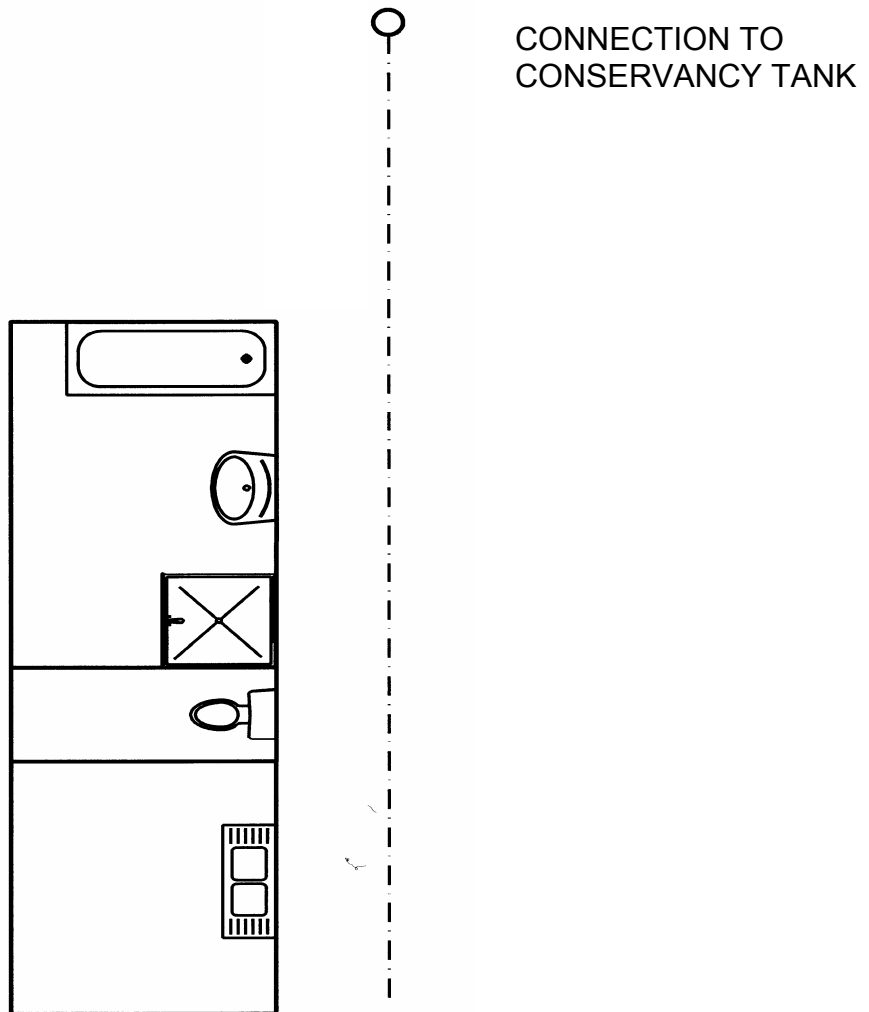

FIGURE 3.1
- 3.1 FIGURE 3.1 on ANSWER SHEET 3.1 shows the plan of a kitchen, toilet and bathroom.